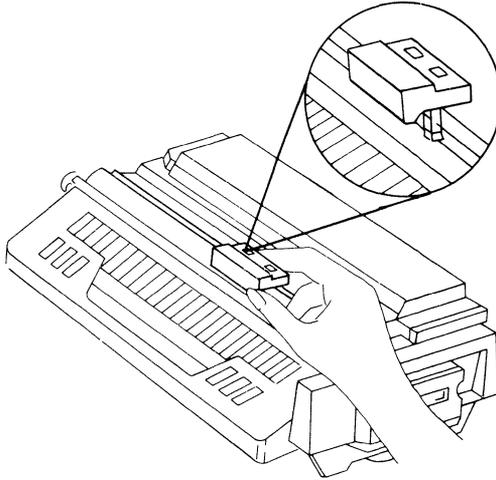

Figure 6: Cleaning the Primary Corona Wire
3. Insert the wire cleaner into the long slot of the print cartridge (Figure 6). The plastic shield gives way to allow the wire cleaner to reach the primary corona wire inside.